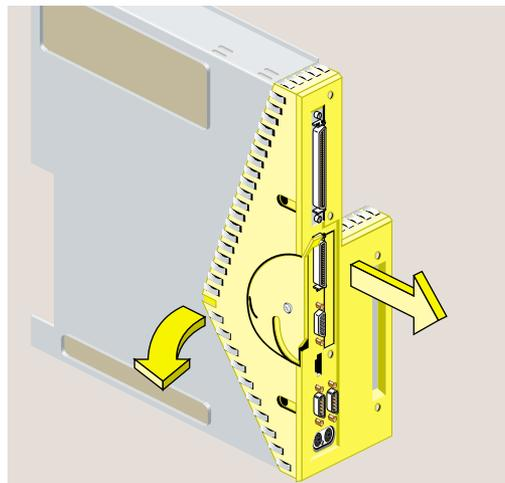

Figure 2-33 Removing the Face Plate From the System Module
- Remove the face plate by grasping it where the plastic comes to a “V” and pulling it outward. (See Figure 2-33.) The filler panel covering the I/O port falls away as you remove the face plate.